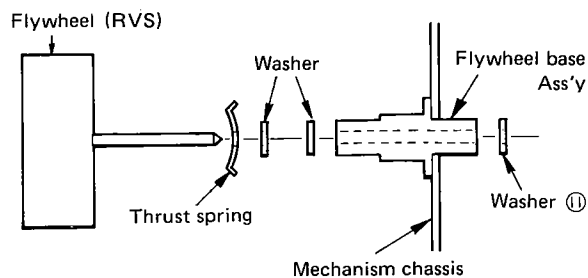

Fig. 8
- Remove the washers (⑪) in Fig.8 and then remove the flywheel (RVS)..